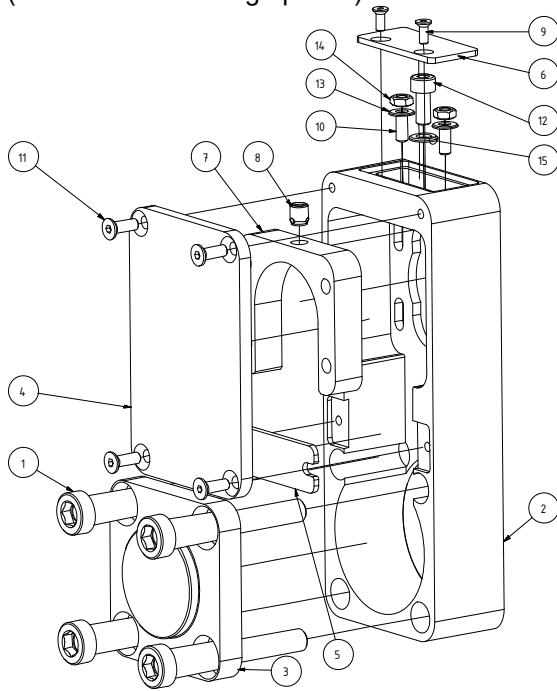
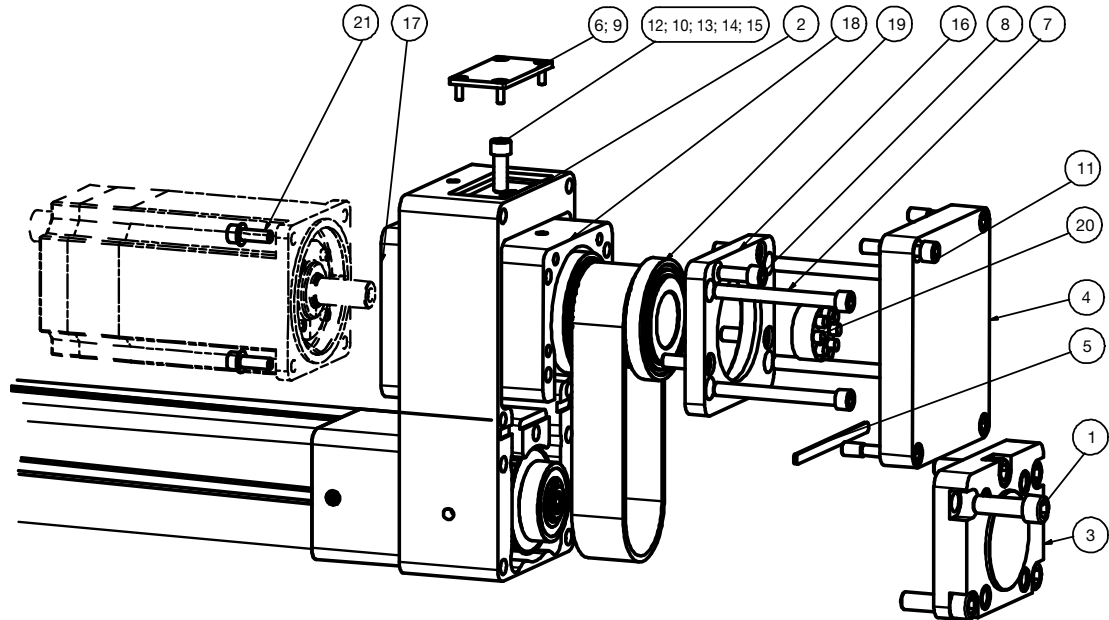

Figure 37: Parallel housing (2)
Figure 39: Exchange toothed belt ETH100&125
For visual inspection, you must only remove the (upper) lid with the four screws (see Figure 37 & Figure 39 Pos.4+11).
- ◆ Loosen and remove 4 screws (please refer to Figure 37 Pos.1).
- ◆ Remove cover (please refer to Figure 37 Pos.3).
- ◆ Remove bar (please refer to Figure 37 Pos.5).
- ◆ Clean the inside of the parallel housing (see Figure 37 pos.2) and the previously removed components.
- ◆ Insert bar (please refer to Figure 37 Pos.5).
- ◆ Replace cover (please refer to Figure 37 Pos.3).
- ◆ Apply screw lock "Wiko 02K43 medium" to 4 screws (please refer to Figure 37 Pos.1) and tighten slightly.
- ◆ Align gearbox (please refer to Figure 37 Pos.2) with the electro cylinder.
- ◆ Tighten 4 screws (please refer to Figure 37 Pos.1) with the given tightening torque.
- ◆ Mount lid (please refer to Figure 37 Pos.6) with screws (please refer to Figure 37 Pos.9).
- ◆ Mount lid (please refer to Figure 37 Pos.4) with screws (please refer to Figure 37 Pos.11).
- ◆ Unscrew the 4 screws (Figure 39 Pos. 7). Set aside the screws and motor flange (Figure 39 pos. 17).
- ◆ Loosen central toothed belt tensioning screw (please refer to Figure 39 Pos.12). The drive unit must lower slightly when the tensioning screw is loosened.
Secure upper bearing unit (Figure 39 Pos. 18) against dropping. Danger of crushing: Do not place your hands or fingers between upper bearing unit and parallel housing.
- ◆ Unscrew and set aside the tensioning screw (Figure 39 pos. 12).
- ◆ Loosen 5 screws (please refer to Figure 39 Pos.1) and remove lid (please refer to Figure 39 Pos.3). If the lid can not be removed easily (please refer to Figure 39 Pos.3), try to remove it with a slightly pivoting movement.
- ◆ Remove middle bar (please refer to Figure 39 Pos.5) with seal.
- ◆ Remove upper bearing unit with toothed belt (please refer to Figure 39 Pos.18).
- ◆ Unscrew 4 screws (Figure 39 39 pos. 8) from the bearing unit and set aside.
- ◆ Remove the bearing flange (Figure 39 39 pos. 16) from the bearing unit (see illustration 39 pos. 18) by means of the existing impression threads and two screws M6x30 (not included in the scope of delivery). Screw in the screws to the stop and then screw in both screws alternately by 1/2 turn each.
- ◆ Remove hollow shaft with the two bearings (please refer to Figure 39 Pos.19) from the bearing unit (please refer to Figure 39 Pos.18).
- ◆ Clean the inside of the parallel housing (see illustration 39 pos.2) and the previously removed components.
- ◆ To insert the hollow shaft (Figure 39 pos. 19) with the two bearings into the bearing unit (Figure 39 pos. 18) and mount the bearing flange (Figure 39 pos. 16) use a hand press and carefully press the parts into each other.
- ◆ Screw screws (Figure 39 Pos.8) into the bearing unit.
- ◆ Adjust the toothed belt pre-tension with the tension screw (Figure 39 pos.12):